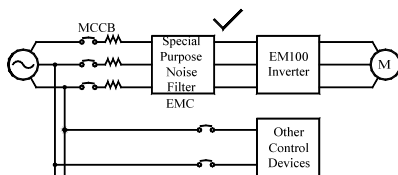
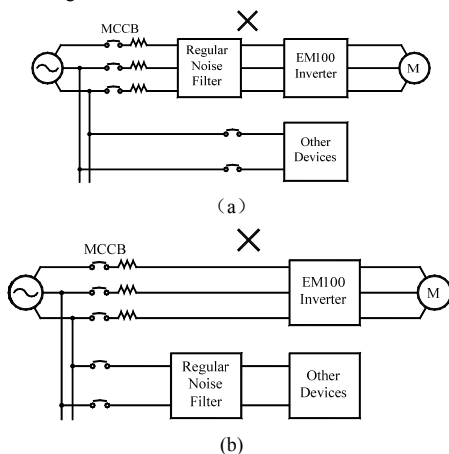

Figure 3-7 Correct Installation of Noise Filter
Figure 3-8 Incorrect Installation of Noise Filter
- Correct vs incorrect installations of noise filters as shown in Figure 3-7 and Figure 3-8.